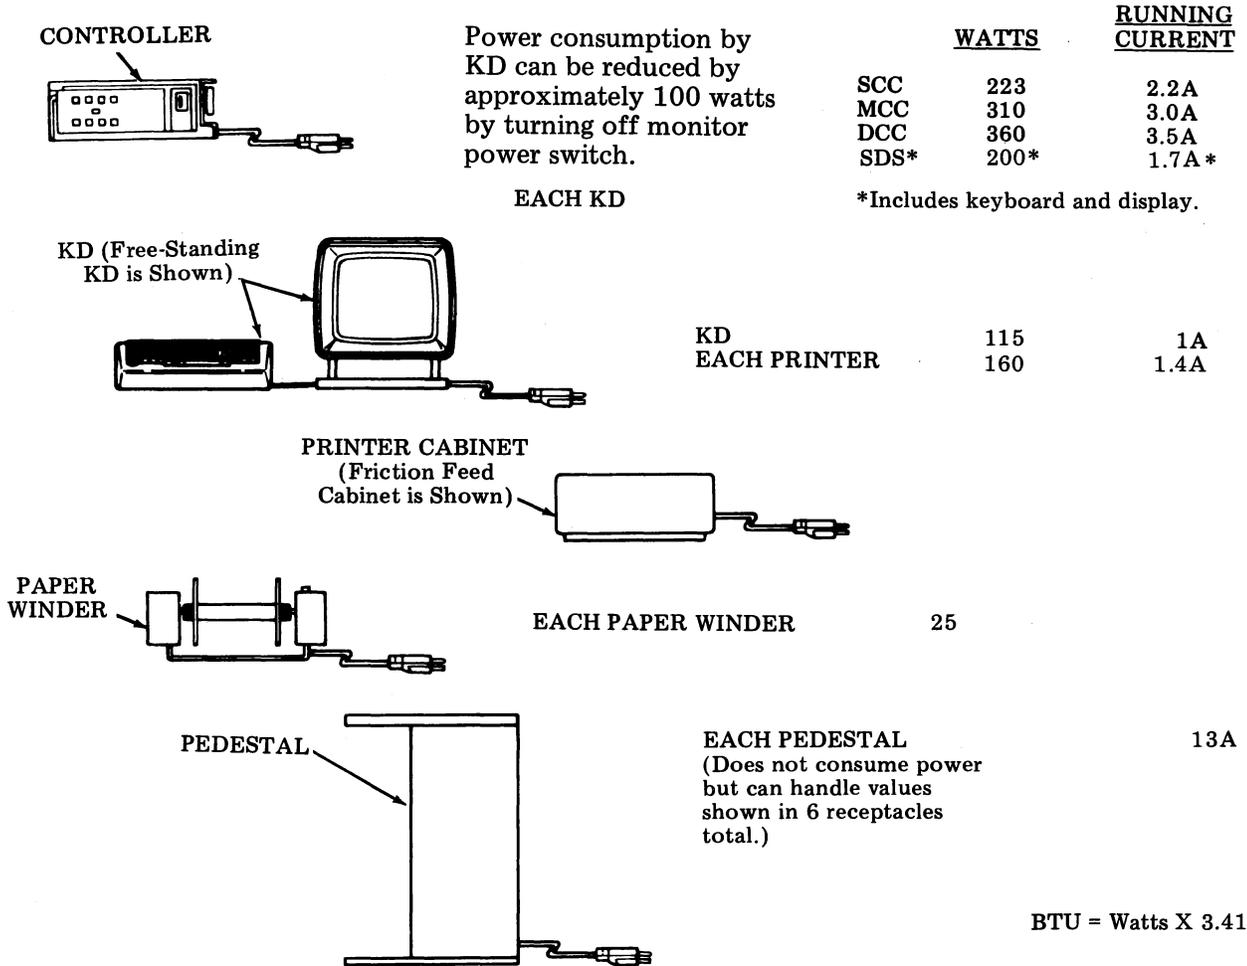

Fig. 6
5.01 Currents and power shown in Fig. 6 are maximum values based on power company supplied voltages within the limits: 115 volts ac $\pm 10\%$, 60 Hz $\pm 0.75\%$. When the frequency varies more than 0.1% for extended periods, a cyclic displacement (wavyness) of data on the monitor may be observed. This condition can be eliminated by the use of the 40MN201 monitor.